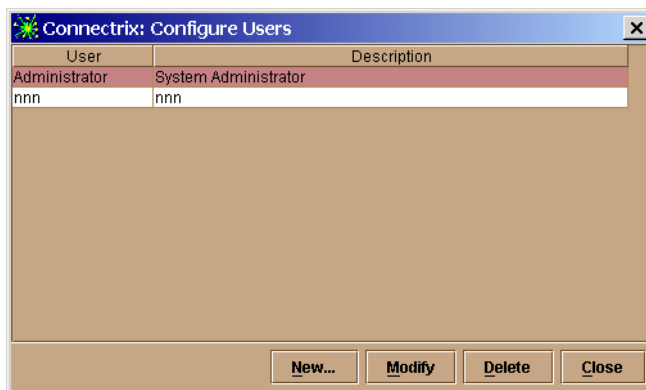

Figure 2-2
1. From the Configure menu, select **Users**. This displays the Configure Users dialog box (Figure 2-2).
1. From the Configure menu, select **Users**. This displays the Configure Users window (Figure 2-2).
Delete users from the system through the Configure Users dialog box (Figure 2-2 on page 2-6).